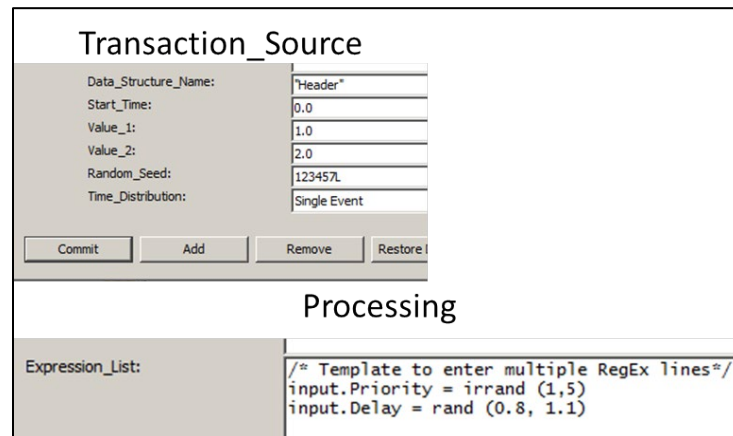

Figure 44.
- Edit the Parameters of the Processing block as shown in figure 44.